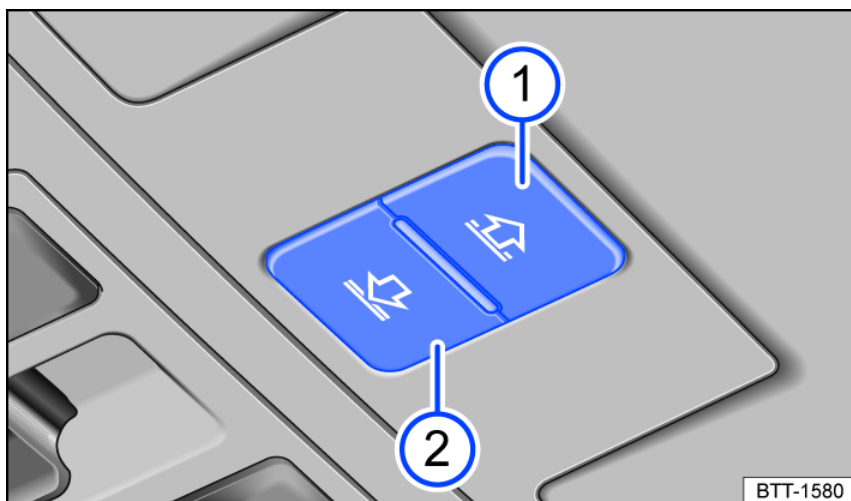

Fig. 106 In the headliner: buttons for controlling the sunshade.
The *fig. 106* ① and ② buttons have two detents. In the first detent, the sunshade can be opened or closed either completely or partially.
- Within approximately five seconds after pinch protection is triggered, press and hold the *fig. 106*  button until the sunshade is completely closed.